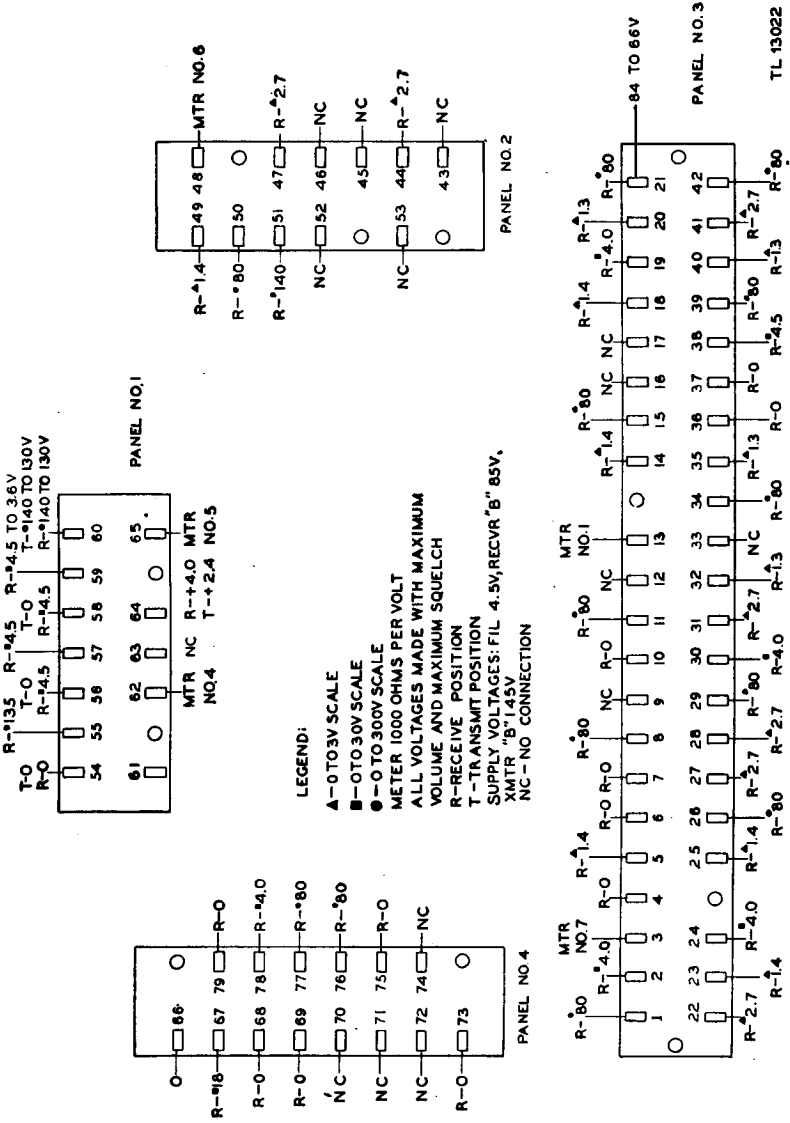

Figure 75. Terminal panels 1 and 3 showing terminals used in checking batteries.
(1) Obtain a Radio Receiver and Transmitter BC-1000-A which is known to be in proper operating condition.
(2) Remove the Radio Receiver and Transmitter BC-1000-A and the battery from their cases and interconnect them with the battery cable assembly from Maintenance Equipment ME-40-( ).
(3) Connect Handset TS-15-( ) and phantom Antenna A-28-( ).
(4) Turn on set.
(5) Measure voltages between the chassis and terminals as indicated in table XV. See figure 75 for a view of the terminal panels. Replace the battery if any one of the following end-point voltages is indicated: